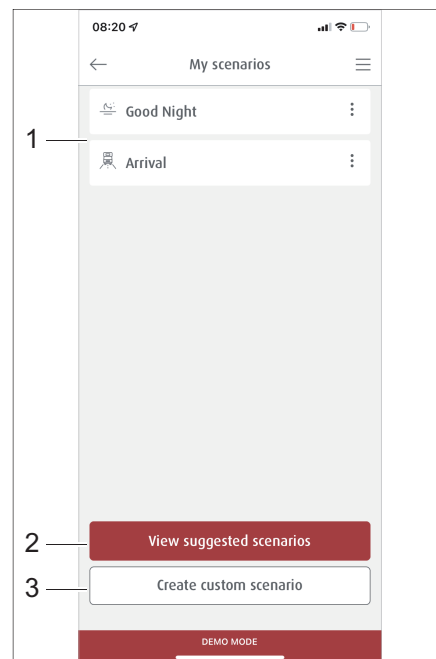

Fig. 303 Managing scenarios
In the *Scenarios*, all stored scenarios can be found (Fig. 303,1). Preset scenarios (Fig. 303,2) can be viewed or new ones created (Fig. 303,3).
- In the *Scenarios* menu, click on the *View Preset Scenarios* (Fig. 303,2) button. A list of preset scenarios will appear.
The buttons for the selected scenarios will be marked in red and transferred to the list in the *My Scenarios* menu (Fig. 303,1).